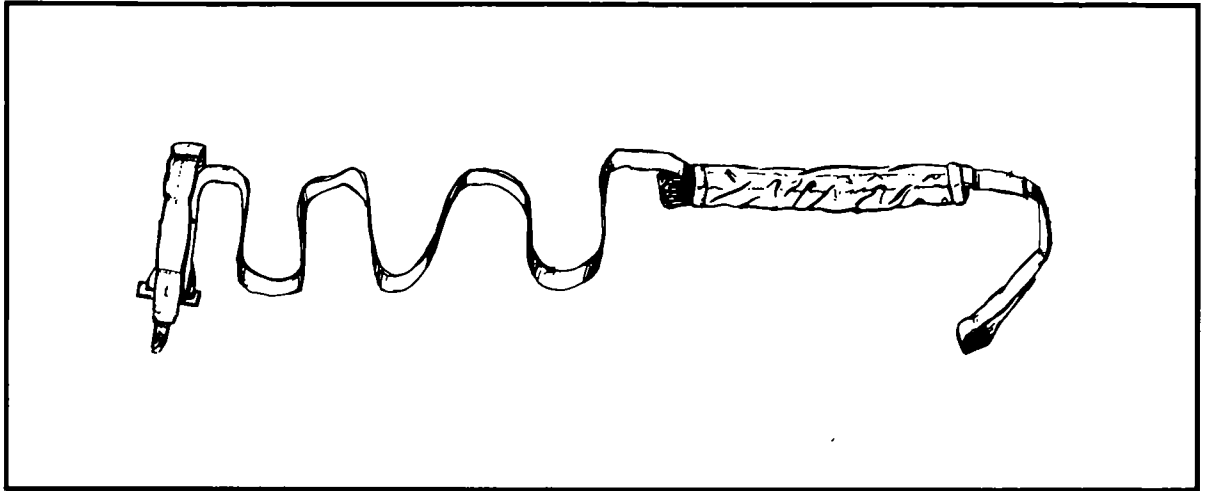

Figure 6-59. Lowering line stowed for tandem load.
d. Secure the pile extension on the flap retainer to the hook tab at the loop end of the lowering line (Figure 6-59).